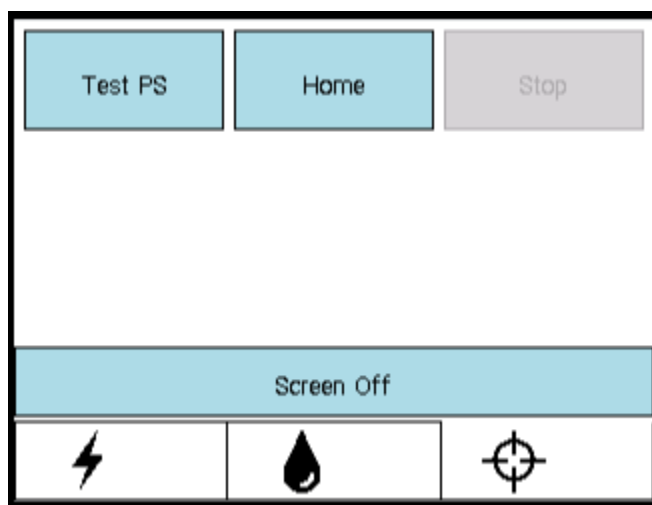
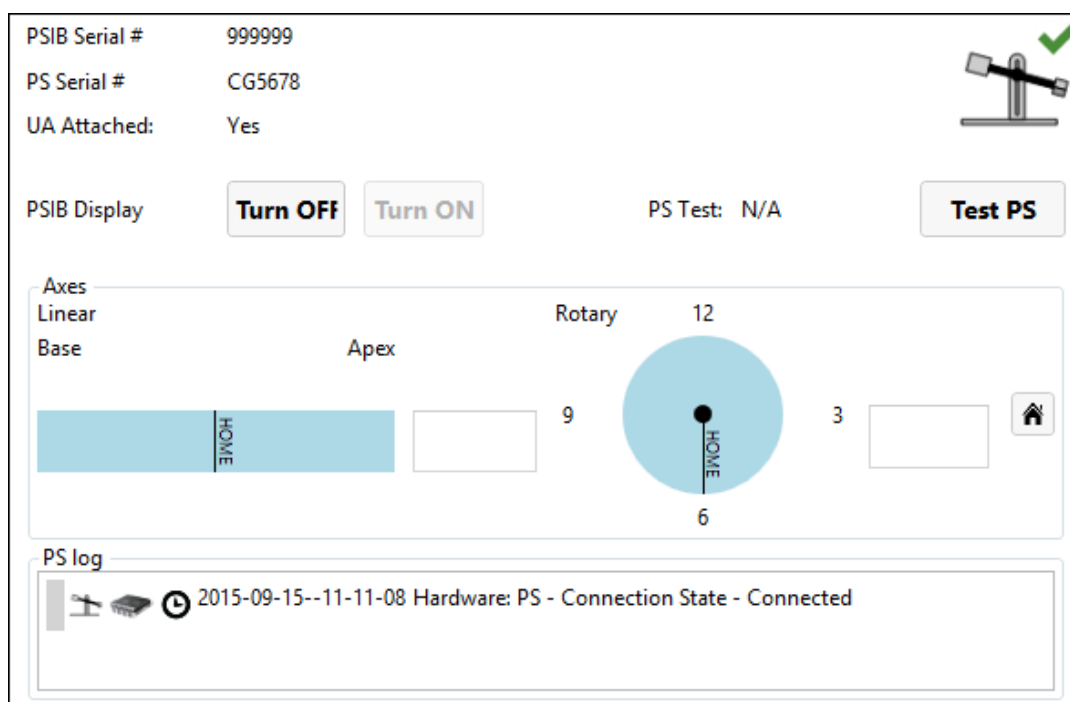

Figure 6: PSIB display - PS tab
Figure 7: PS information box in Setup workspace
- b. On the PSIB display, select the PS tab  and click **Test PS** (Figure 6). The system will translate the PS forward and backward to test the continuity and functionality of the translation axis as well as home the PS in the translation axis. The system will also rotate the rotational axis clockwise and counter-clockwise to test the continuity and functionality of the rotational axis. (This can also be done from the TDC *Setup* workspace in the PS information box in the bottom-right quadrant Figure 7.) You can move to the next step while the PS test is in progress.